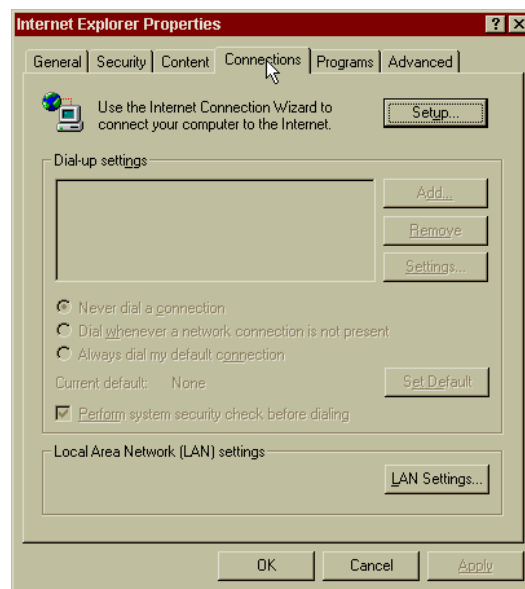

FIG. 96: INTERNET PROPERTIES DIALOG BOX
Step 18. Click on the Internet Options Icon. The Internet Explorer Properties dialog box appears. (See Fig. 96)